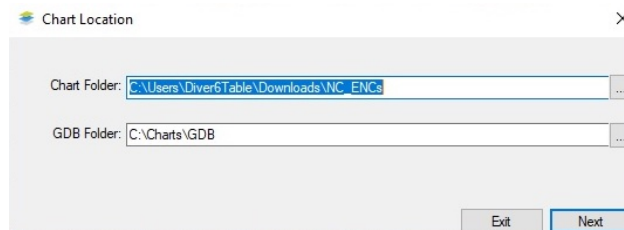

Figure 73: Chart Location
4. A window will appear waiting for your instruction (Figure 73).